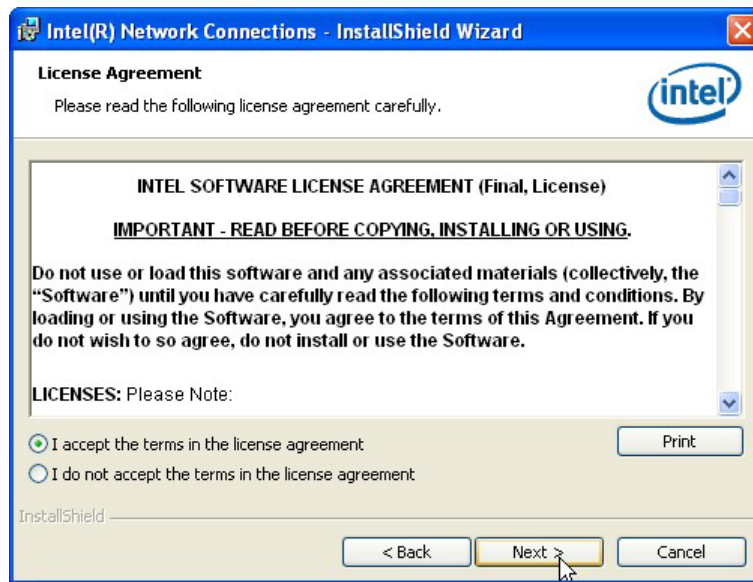

Figure 6-17: LAN Driver License Agreement
Step 8: The **License Agreement** in Figure 6-17 appears.